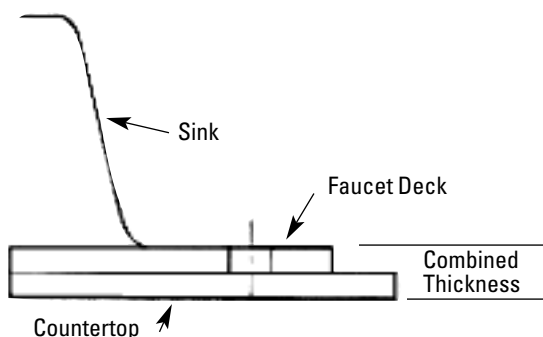

Figure 12
- Check to see if the faucet assembly can clear the combined thickness ($1\frac{1}{4}$ " to $1\frac{1}{2}$ " [32 mm to 38 mm]) of the CORIAN® countertop and sink (see Figure 12). It may be necessary to change faucet sets.